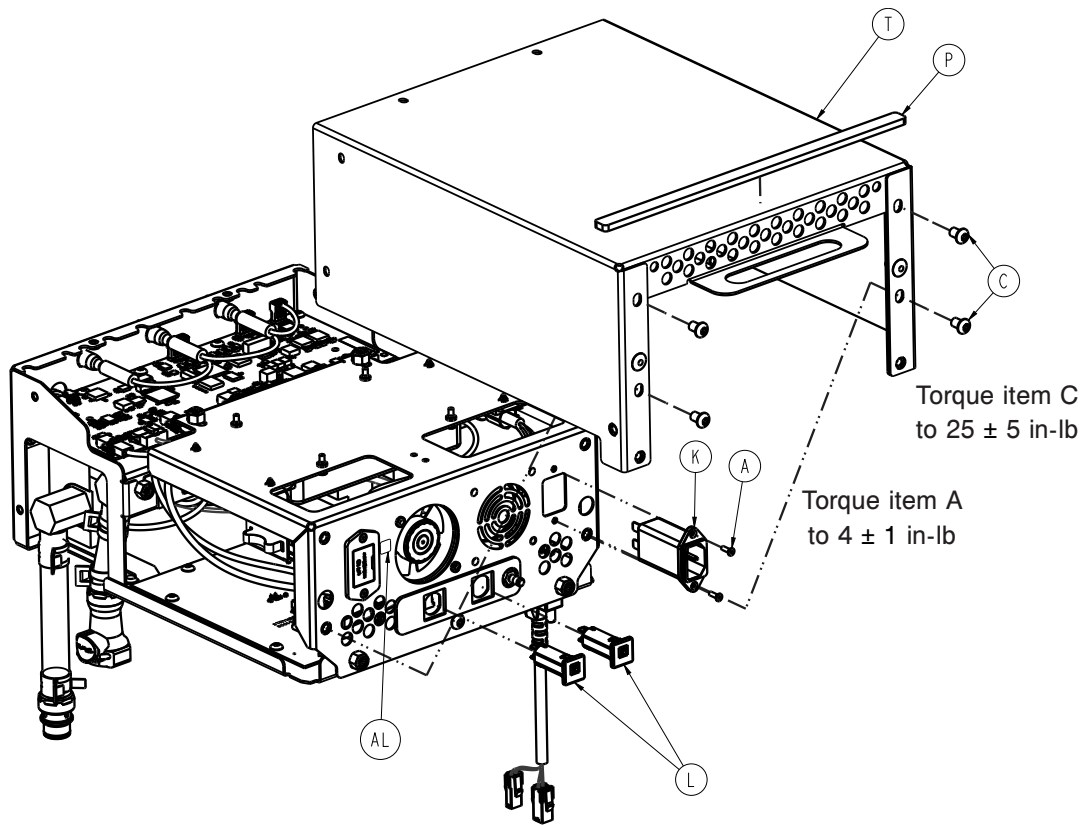

Figure 31 – Back of the control assembly
7. Using a T27 torx, remove and save the four screws (C) on the back of the control assembly. Pull the cover towards the back of the product, set aside (Figure 31).